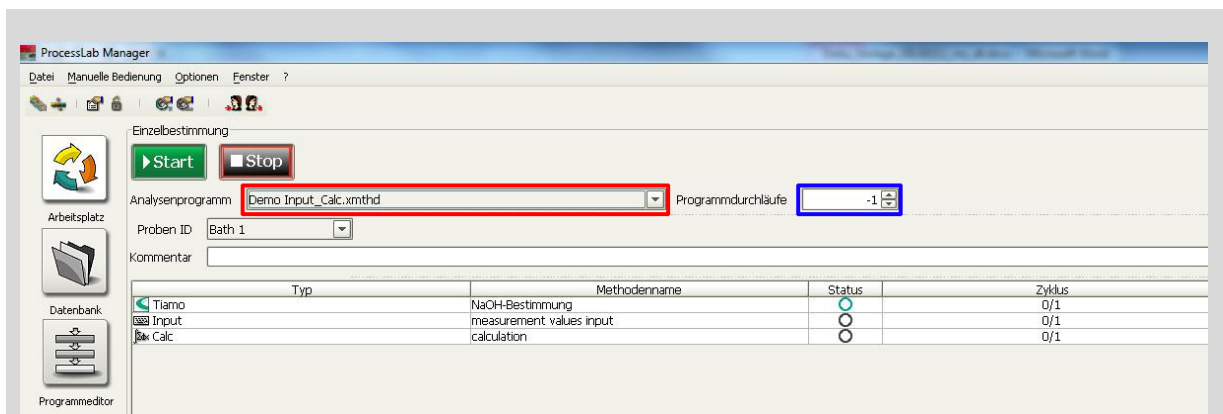

Figure 16: Single determination
- Select the required analysis program from the pull-down menu (see Figure 16: Single determination, red rectangle).
- "Program cycles" has to be set to -1 in order to operate the single determination continuously (see Figure 16: Single determination, blue rectangle).